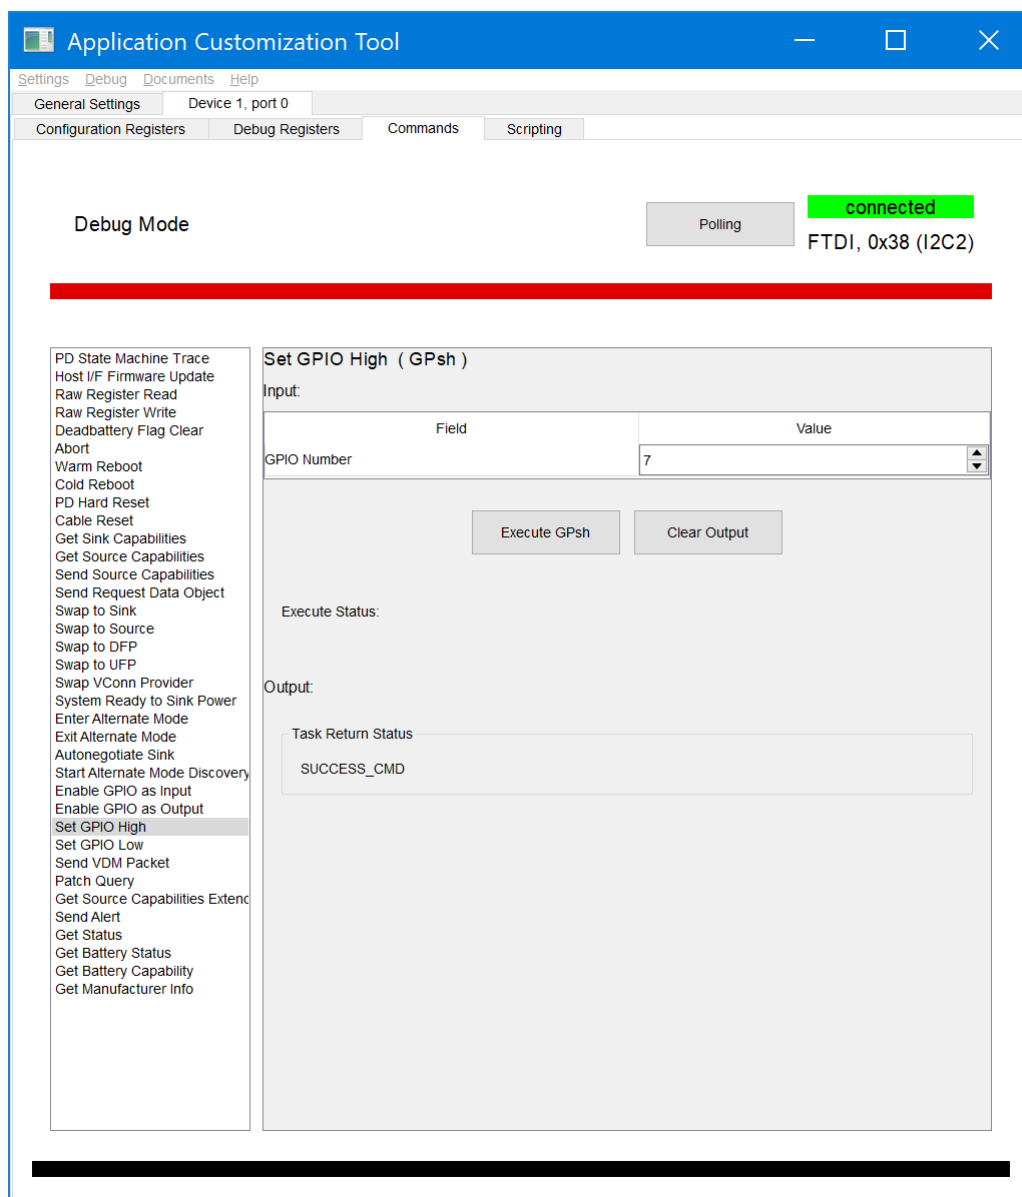

Figure 5-5. Using 'GPsh' 4CC Command
- Then send 'GPsh' 4CC command as shown in Figure 5-5.